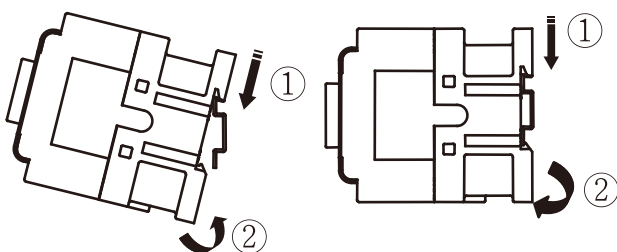

Figure 2 Mounting and removal instructions for HDCK-09~38
- The contactor can be mounted either by screws or on a card track. HDCK-09~38 models can be mounted on a 35 mm standard card track, and HDCK-40~95 models can be mounted on a 35 mm or 75 mm standard card track. Before installation, check that the rated voltage and frequency of the coil match the control power supply. Do not use the contactor if it is damaged or not securely assembled. See Figures 2 and 3 for mounting and removal instructions.